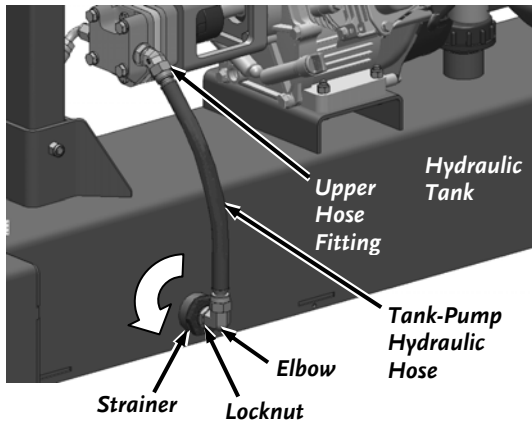

Figure 36
3. Disconnect the Upper Hose Fitting of the Tank-Pump Hydraulic Hose with a 7/8" Wrench (**Figure 36**).